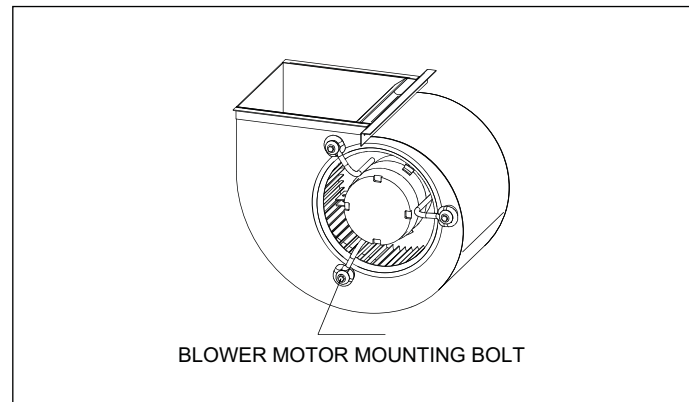

Figure 1
- Carbon Monoxide (CO).
- ▶ Make sure the blower motor support is tight (3-motor mounting bolts - Fig. 1). Then check to see if wheel is tightly secured to motor shaft before operation unit.